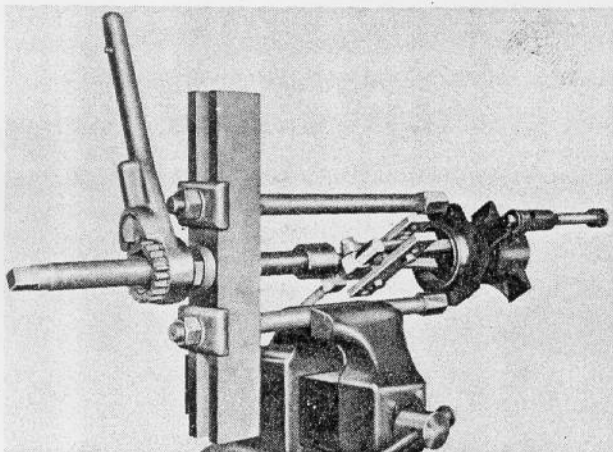

Fig. 15
- f. Remove the front bearing race as shown in Figure 15.